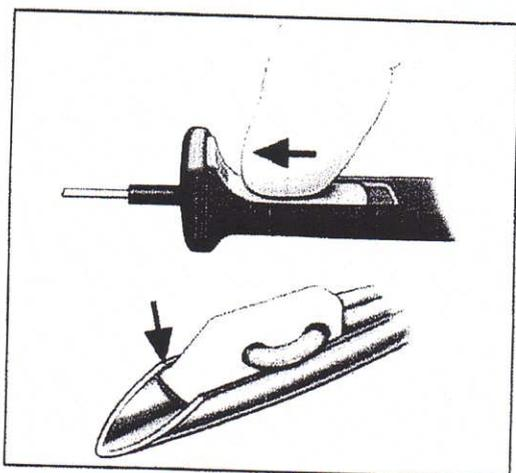

Figure 6. Proper positioning of implant 2
**Note:** It is normal to encounter resistance prior to achieving the ready position. A snap or click is heard when the trigger is fully advanced, ensuring that the implant is fully seated at the end of the needle (Figures 6 and 7).